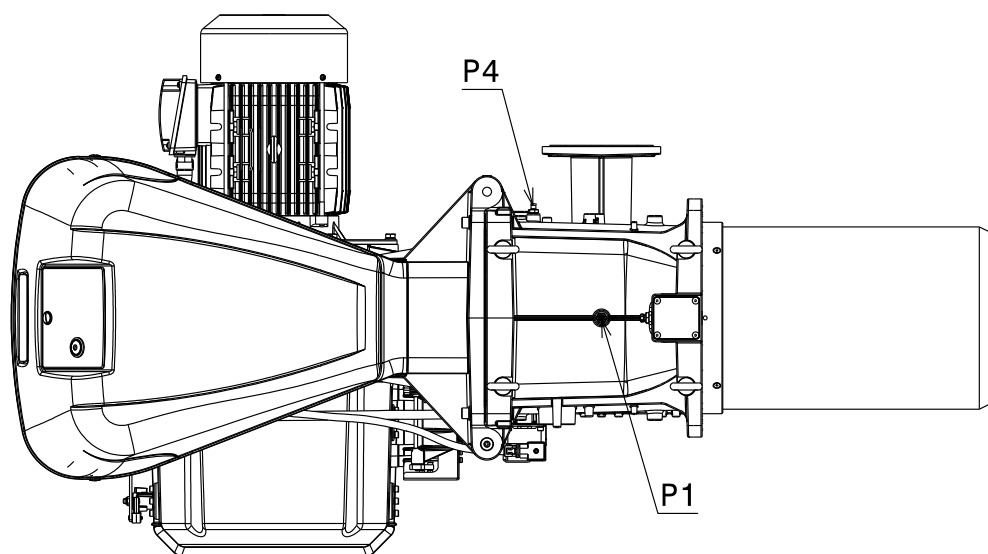

Fig. 25
Gas pressure measured at the test point P1)(Fig. 25), with:
- subtract the combustion chamber pressure from the gas pressure measured at test point P1)(Fig. 25).
Gas pressure at test point P1)(Fig. 25) = 46.7 mbar
To calculate the required gas pressure at test point P1)(Fig. 25), set the MAX output required from the burner operation:
- read, on the right (column 1), the pressure at the test point P1)(Fig. 25).
Pressure required at test point P1)(Fig. 25).